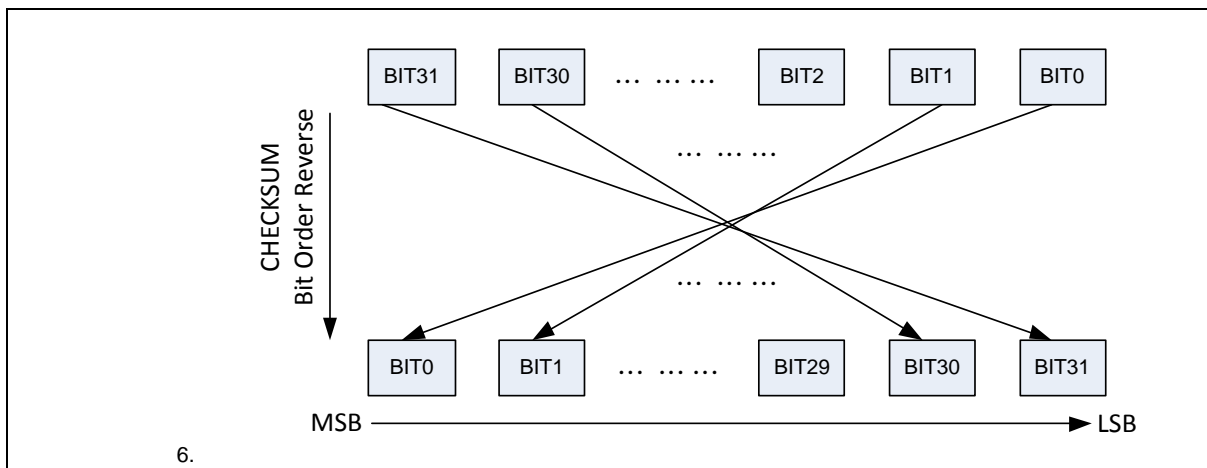

Figure 6.15-2 CHECKSUM Bit Order Reverse Functional Block
- Configure bit order reverse for CRC checksum by setting CHKSREV (CRC_CTL[25] Checksum Bit Order Reverse). The functional block is also shown in Figure 6.15-2.